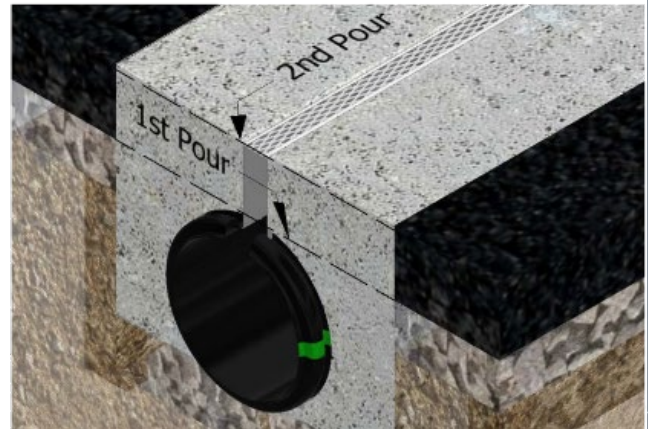

Figure 4
- *Installation Tip:* The backfill may have to be done in two or more lifts, depending on site requirements (Figure 4).